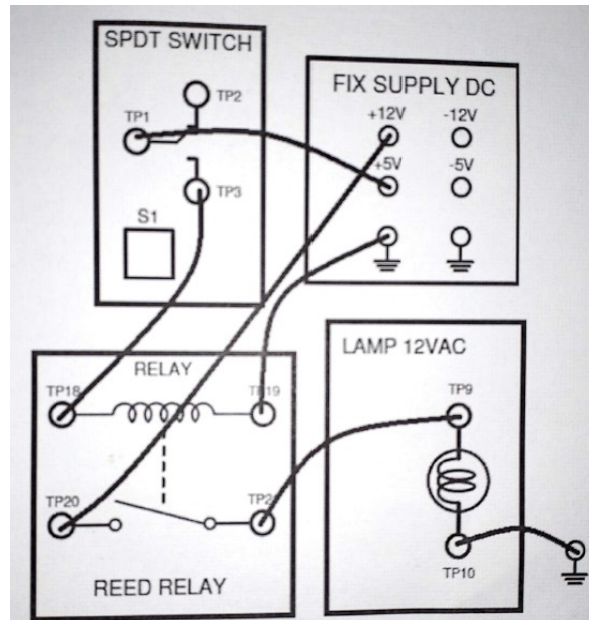

Figure 4.3: Connection Diagram of Reed Relay
2. Construct the circuit as shown in the Figure 4.3.
3. Apply the +5V to coil terminals (TP18 and TP19) through the switch SPDT as shown the Figure 4.3.